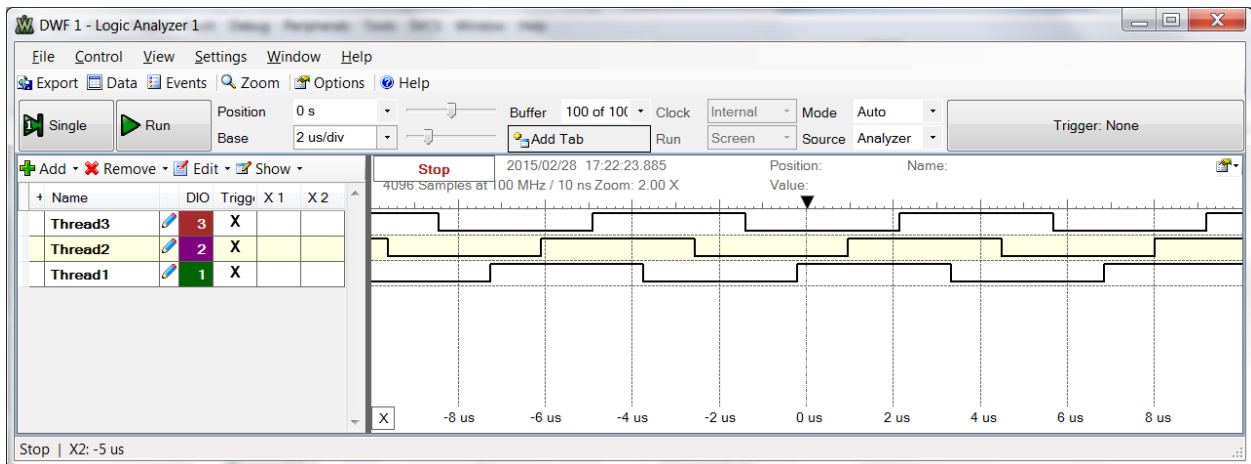

Figure 2.1 Cooperative Scheduling
1) plots of the logic analyzer like Figures 2.1, 2.2, 2.3, 2.4, and 2.8